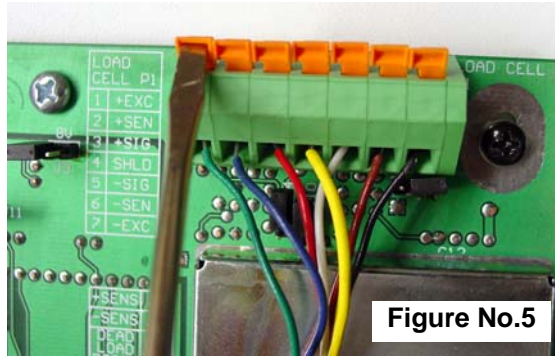

Figure No.5
- To terminate a wire, use a small flat blade screwdriver and press down on the release bar for the terminal. Insert the wire into the terminal opening. Remove the screwdriver, allowing the release bar to return to its original position, locking the wire in place. See Figure No. 5.
7. To terminate a wire, use a small flat blade screwdriver and press down on the release bar for the terminal. Insert the wire into the terminal opening. Remove the screwdriver, allowing the release bar to return to its original position, locking the wire in place. See Figure No. 5.